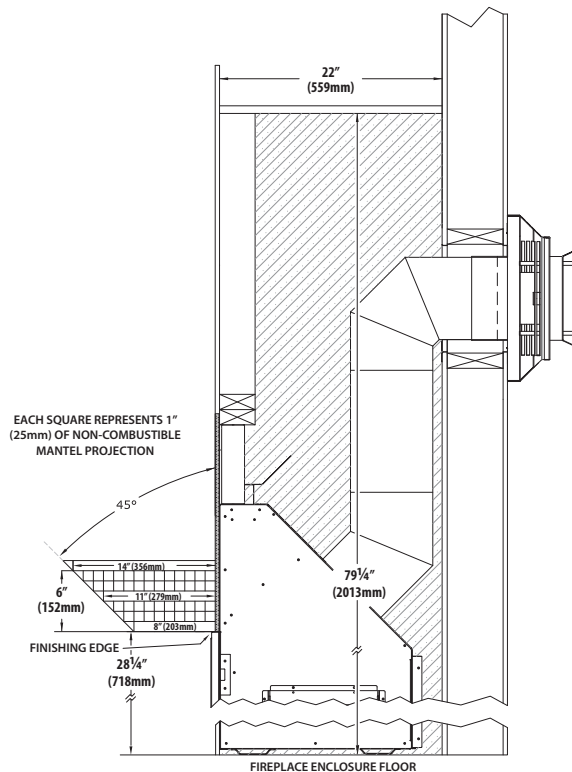

Figure 4.2, Non-combustible Mantel Clearances
- Non-combustible Mantel Projections - Minimum Vertical and Maximum Horizontal: A minimum vertical clearance of 6 in (152 mm) above the finishing edge to a maximum 6 in (152 mm) depth of a non-combustible mantel. Follow projection 1 in (25 mm) up for every 1 in (25 mm) deeper. See Figure 4.2.